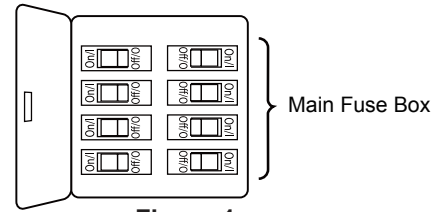
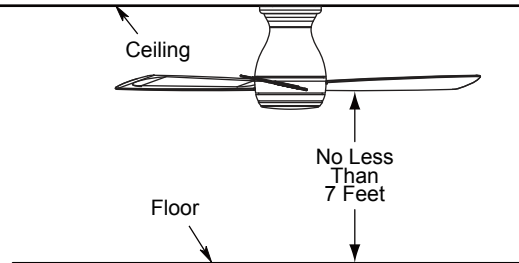
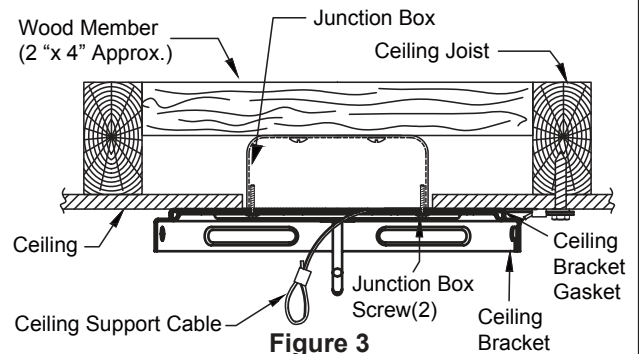

Figure 1
Figure 2
Figure 3
Your new ceiling fan will require a grounded electrical supply line of 120 volts AC, 60 HZ, 15 Amp Circuit. Electrical code requires use of a fan-rated outlet box to support the extra weight and motion associated with a ceiling fan. A fan-rated box will be labeled as such and typically supports up to a 70lb ceiling fan. Fan-Rated Outlet Boxes vary in ratings and design. Ensure the ratings of your ceiling fan outlet box meet the requirements for the ceiling fan being installed. Figure 1, Figure 2 and Figure 3 depicts different structural configurations that may be used for mounting the outlet box.
Low profile box (Figure 1)
Deep box (Figure 2)
Deep box with brace (Figure 3)
To avoid possible electrical shock, be sure electricity is turned off at the main fuse box before hanging. (Figure 1) **NOTE:** If you are not sure if the outlet box is grounded, contact a licensed electrician for advice, as it must be grounded for safe operation.
The fan must be hung with at least 7' of clearance from floor to blades. (Figure 2)
1. Using the 3/8 " x 2 " lag bolt and flat washer, attach safety cable to ceiling joist or wood structural member. The lag bolt will pass through the flat washer, safety cable loop, and into the building structure (Figure 3). You will first drill a 1/4 " pilot hole into the building structure to prevent splitting or cracking.
2. The ceiling support cable need to through the center hole of ceiling bracket when mounting. Using the two #8-32 screws and washers securely attach the ceiling bracket gasket and ceiling bracket to ceiling junction box as shown. (Figure 3)
1. Assemble the motor assembly to ceiling bracket using the previously removed screws and securely tighten all screws. (Figure 1)
2. Push the canopy trim ring up to conceal the screws, such that the mounting tabs seat into the dimpled grooves in the ceiling bracket midway between the screws. (Figure 2)
- 2. Assemble the light kit assembly to the support bracket using the two key slots in the light kit assembly. Replace the third screw and securely tighten all three screws. (Figure 2)
- 3. Remove one of the three screws in the light kit assembly and retain the screw for Step 5. Slightly loosen the remaining two screws. (Figure 3)
- 2. Restore electrical power to the outlet box by turning the electricity on at the main fuse box. (Figure 2)
- 3. To make fan operational, install 23A/12V battery (included) in hand-held remote transmitter, with fan power off. Then follow the remote code setting process. (If not used for long periods of time, remove battery to prevent damage to transmitter). Store the remote away from excessive heat or humidity. (Figure 3)